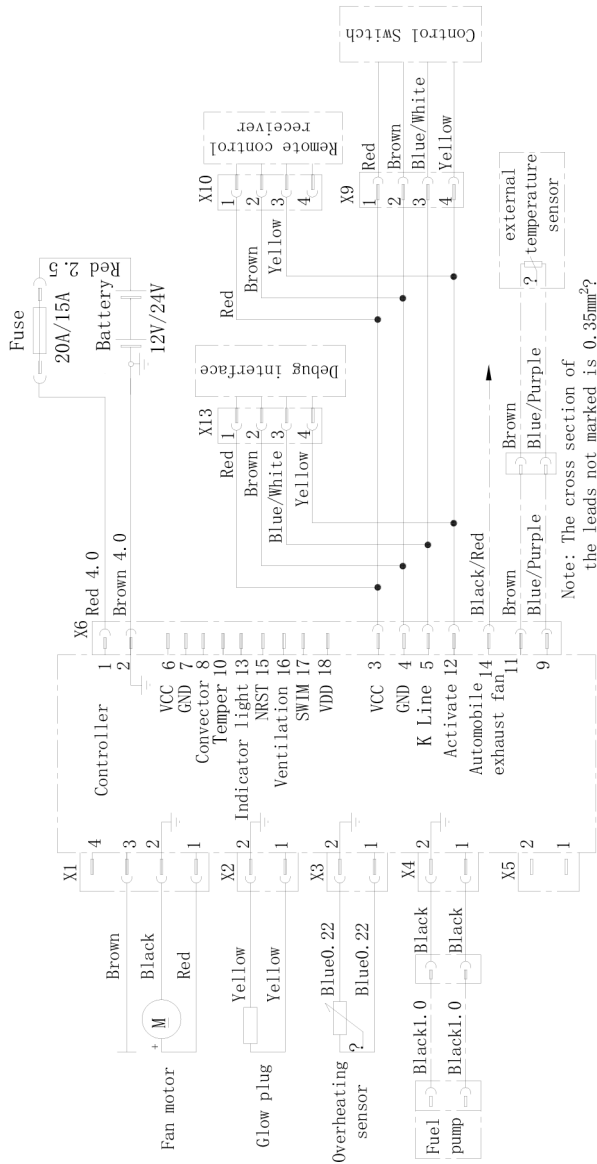
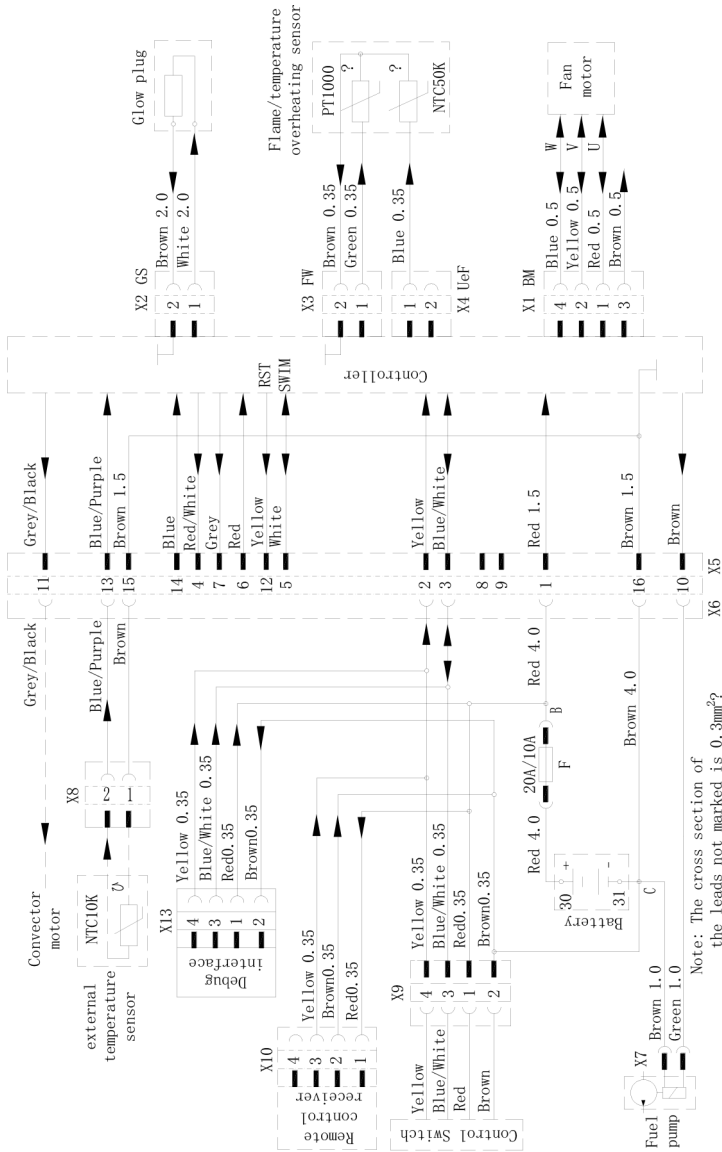

Fig. 41
Fig 42
- ☐ The wiring diagrams for the heater are shown in Fig. 41 (Page 120) and in Fig. 42 (Page 121).